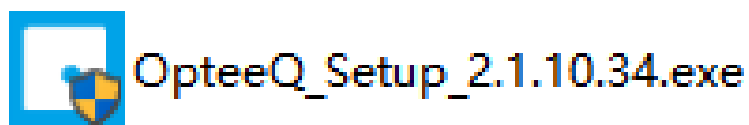

Figure 1.1: Step 1 - Double-click the setup package interface
Step 1: Double-click the "setup package", as shown in Figure 1.1.